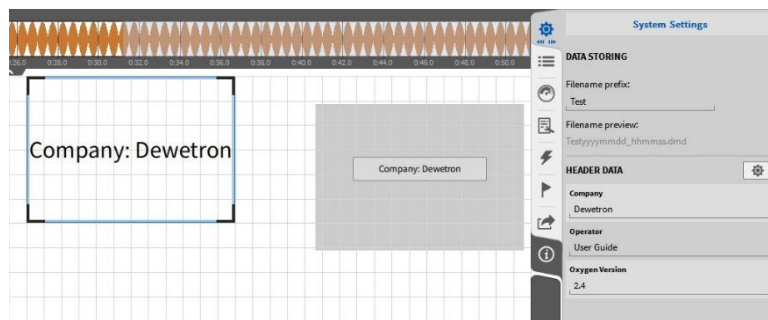

Figure 4-19: Adding Header Data via drag and drop from the System Settings to the measurement screen
- Select the desired Header information at the Header Name in the small view menu of the System Settings and add it by Drag and Drop to the Measurement Screen (see Figure 4-19)